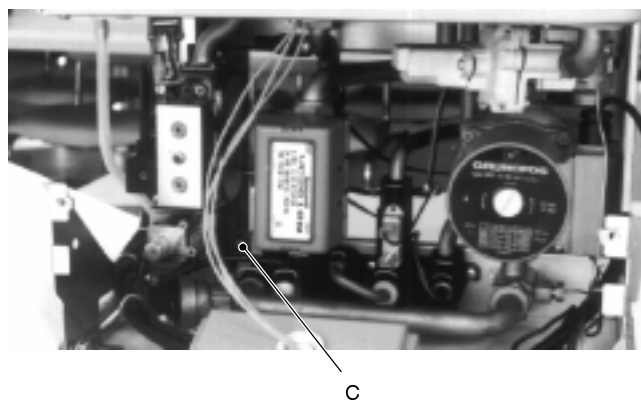

fig. 57
- 5 With a cross screwdriver completely unscrew screws *C* (in fig. 57 the right one is indicated) and remove the valve.